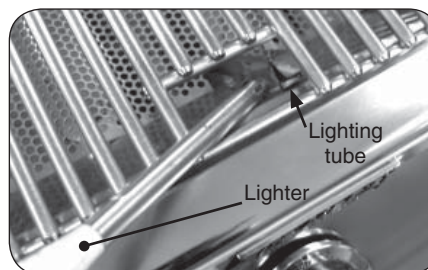

Fig. 19-2 - Manual lighting
2. Insert either a burning long-barrel butane lighter or a burning long-stem match through the cooking grid opening to the top of the lighting tube. (Fig. 19-2). For backburners, hold the flame against the surface of the backburner. For charcoal burners, hold the flame near the burner.
4. If the burner does not light within five (5) seconds of turning the control knob, **immediately depress the knob and turn the valve to OFF**. **WAIT FIVE (5) MINUTES** before repeating steps 2 through 4 of the MANUAL LIGHTING instructions.